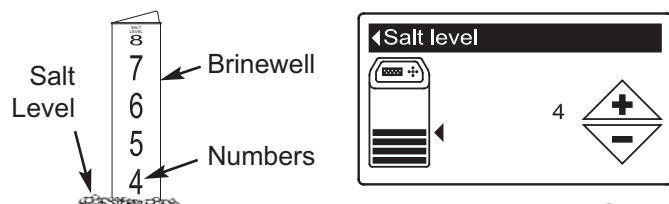

FIG. 88
1. When the conditioner/refiner is displaying the rolling status screens, open the salt lid. The tank light turns on and the Salt level screen appears (See Figure 88).
2. After adding and leveling salt, observe the numbered scale on the brinewell (See Figure 88). Press UP (▲) or DOWN (▼) to match the lowest number visible above the salt.
5. Press the SELECT (O) button to display the Salt level screen (See Figure 88). This screen will not automatically exit for 15 minutes.
6. After adding and leveling salt, observe the numbered scale on the brinewell (See Figure 88). Press UP (▲) or DOWN (▼) to match the lowest number visible above the salt.